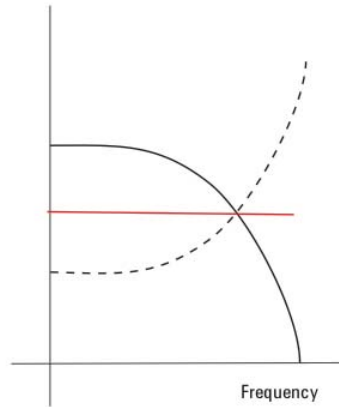

Figure 10 Plot showing the response generated by DFE (dashed) to correct for the non-flat frequency response of the channel (black)
However, with the DFE response, we are attenuating the low frequencies because we have shifted the entire FFE response down (Figure 10). This means the flat response we obtain in the end will be shifted down as well. You can use the gain factor (A) to shift the flat response back up to its correct value.